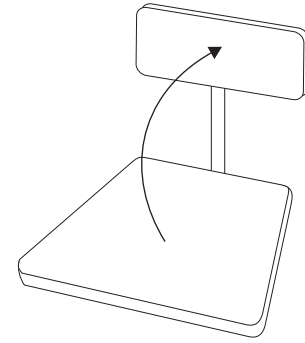

Figure 1 - Backrest Positioning
1. Remove the stool from its carrying case and swivel the back support to the upright position. (Fig. 1)